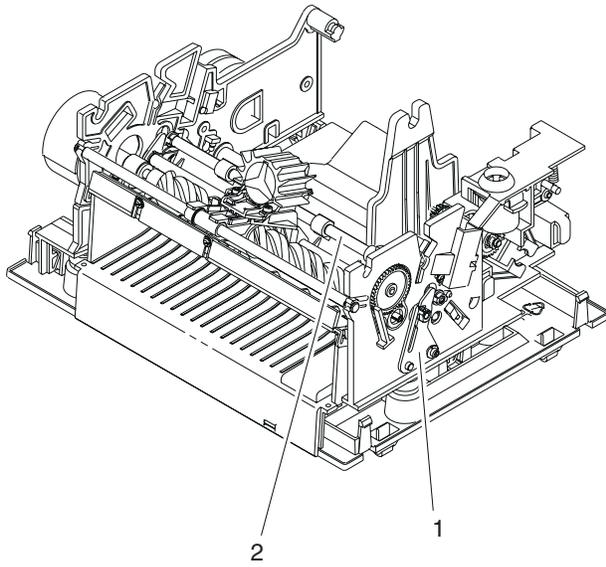

Figure 6-26. Forms Compensation Hardware
- Move the forms compensation shaft using (2) in Figure 6-26 on page 6-44.